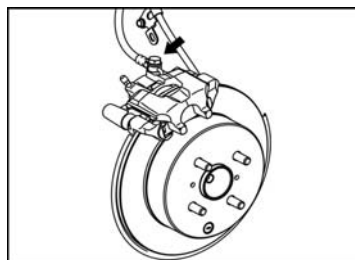

Fig. 2-61
① Remove the joint bolt and washer from the slave cylinder of the rear disc brake, and then disconnect the hose. See Fig. 2-61.